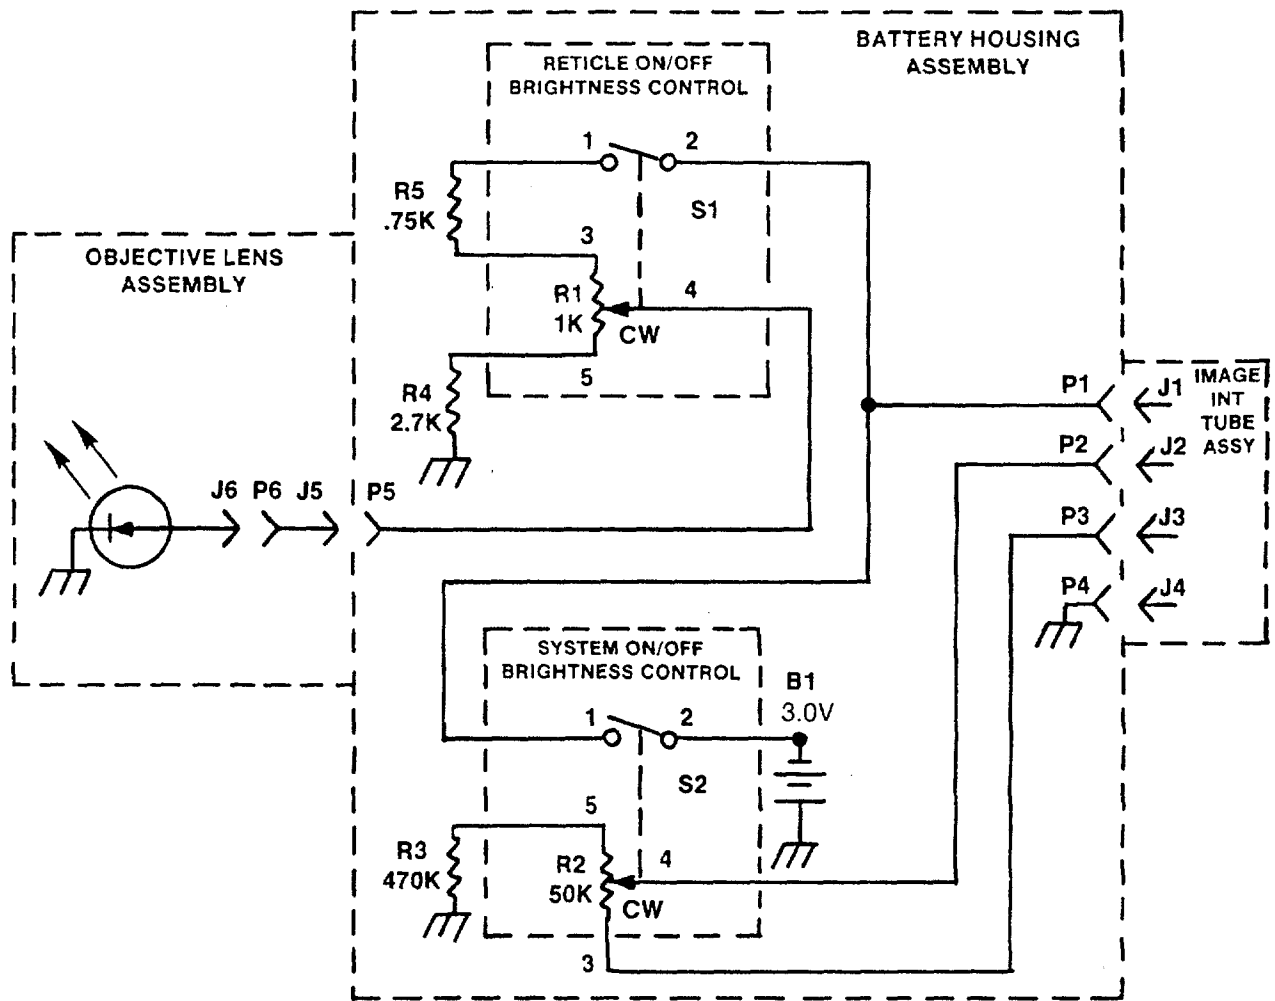

Figure 1-4. Electrical Functions, Schematic Diagram.
b. Electrical Functions. ON-OFF switch S2 (fig. 1-4) is the master control for the sight. Operation in the ON position provides power to the image intensifier and switch S1. Switching S1 to the ON position provides power to the light-emitting diode in the reticle projector assembly Brightness of the image displayed on the screen of the image intensifier is controlled by adjustment of R2 which is on the same shaft as S2. Brightness of the reticle pattern projected on the cathode of the image intensifier is controlled by adjustment of R1 which is on the same shaft as S1.